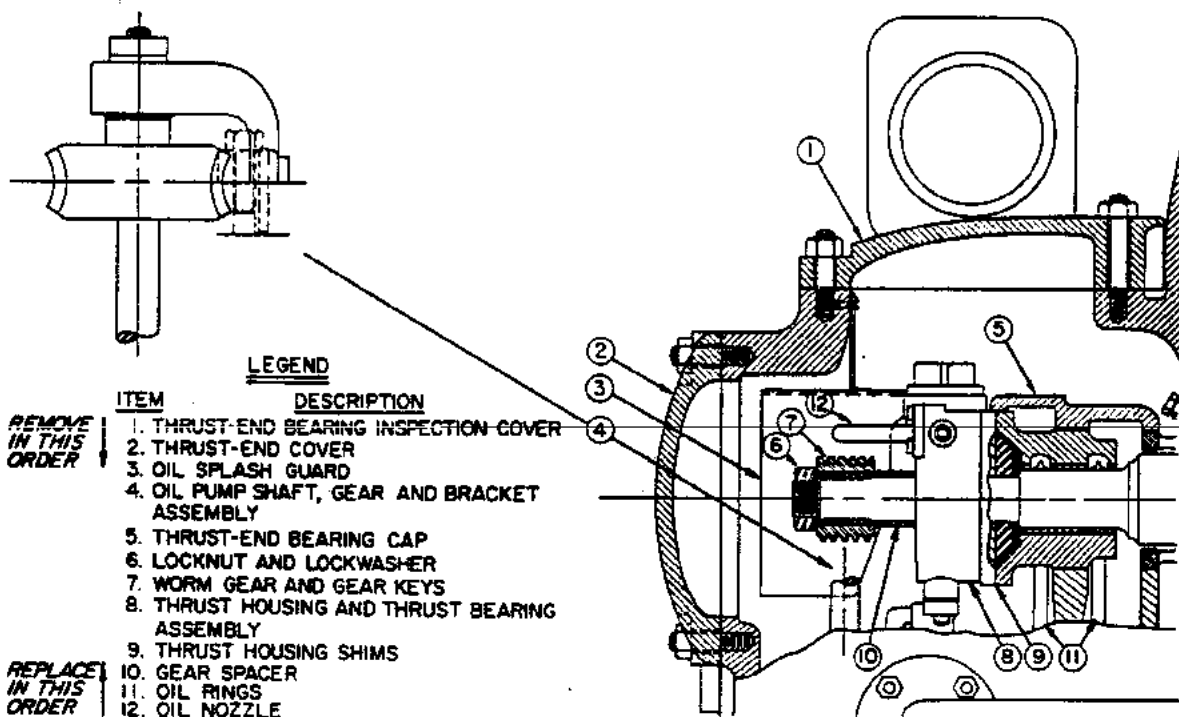

FIG.1 - COMPRESSOR CUTAWAY
Disassemble thrust end in the sequence shown in Fig. 1.
4. Refer to Fig. 1, and install the gear spacer, worm gear, and lockwasher and locknut.
12. Install oil rings and nozzle (Fig. 1).
14. Refer to Fig. 1, and install the gear spacer; thrust housing shims; thrust housing and thrust bearing assembly; worm gear and keys; and lockwasher and locknut.
15. Check shaft float with a dial indicator. If necessary, unbolt the thrust housing and add or remove thrust housing shims (Item 9, Fig. 1) until shaft float is $.010 \pm .002"$ (Fig. 6). Re-install the thrust housing.
16. Refer to Fig. 1, and install the thrust end bearing cap; oil pump shaft, gear, and bracket assembly; oil splash guard; thrust end cover; and the thrust end bearing inspection cover.